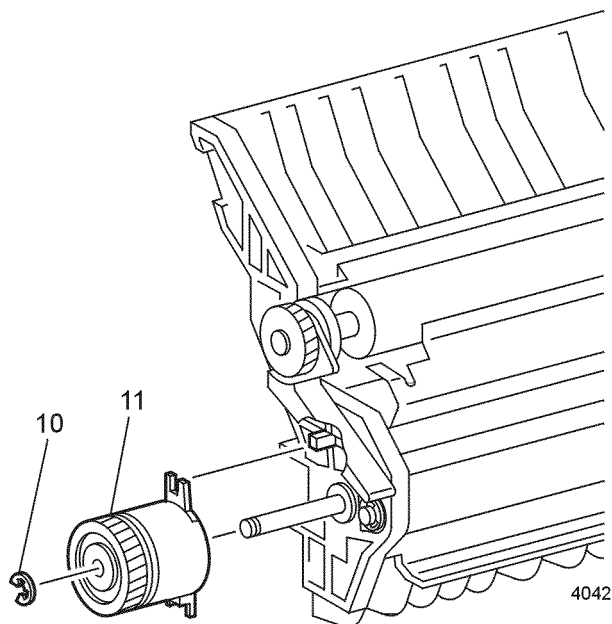

Figure 1 Registration Clutch
10. Remove the E-ring that secures the Registration Clutch to the Rubber Registration Roll (Figure 1).
11. Remove the Registration Clutch (Figure 1).